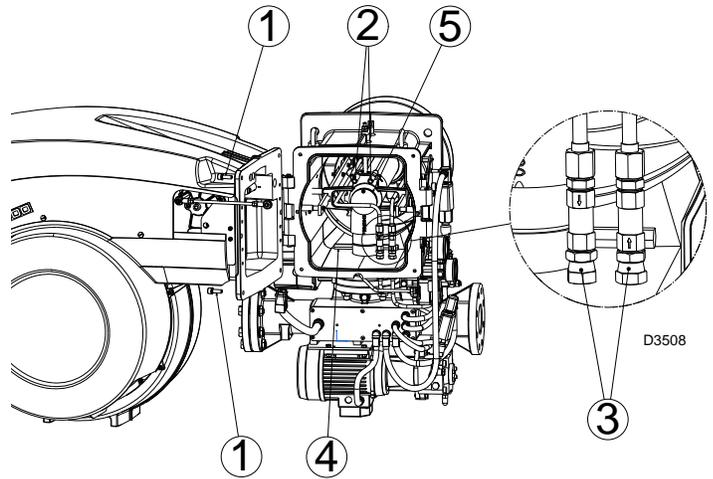

Fig. 14
RLS 300 - 400 - 500/E model (Fig. 14)
- open burner at hinge (Fig. 14) after removing the 4 screws 1);